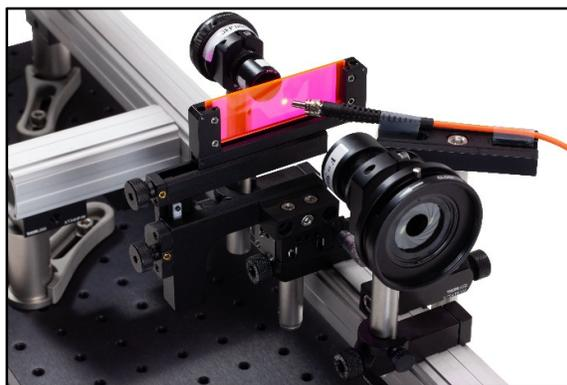

Figure 1: Fiber positioning to collect spectrum from illuminated area of pink slide.
- a. You will need to get the end of the fiber right in next to the spot of light, aimed at an angle toward the lit spot on the slide so you do not just pick up a reflection from the condenser light (see Fig. 1, below). This requires a bit of messing around, and you may need to turn up the integration time on the spectrometer to get a nice spectrum. **Caution: Do NOT touch the fiber end face to anything or bend the fiber cable in a circle smaller than 24 mm (about 1") – these will damage it!**